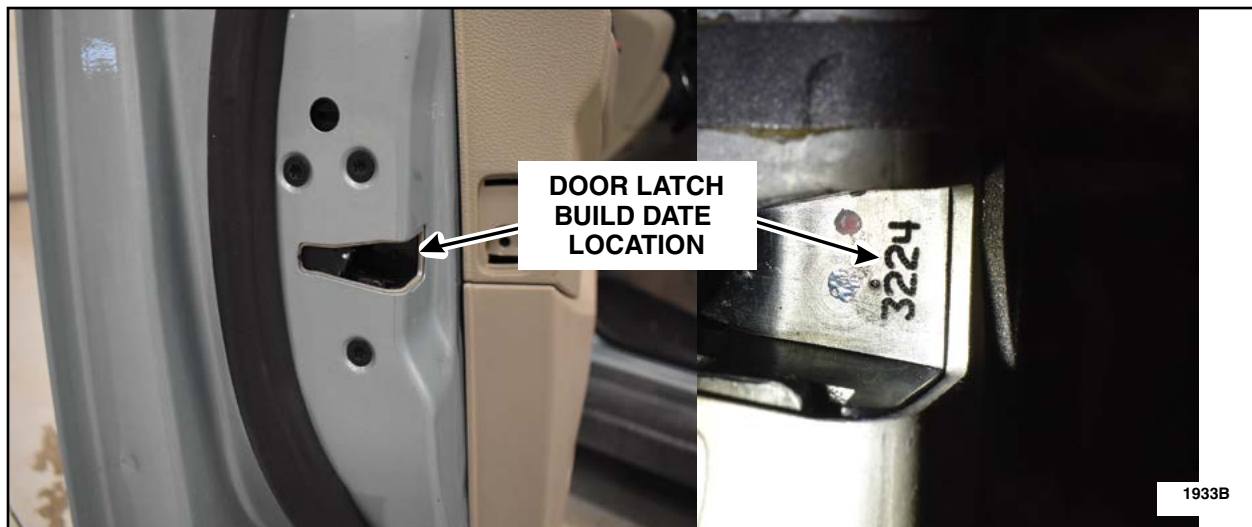

FIGURE 8
4. Once the **new** latches have been installed in the vehicle, record all four date codes of the new latches. Additionally, capture a picture of the date code of each new door latch (four pictures total) showing them installed in the vehicle. These pictures will need to be submitted on the SSSC web questionnaire. See Figure 8.